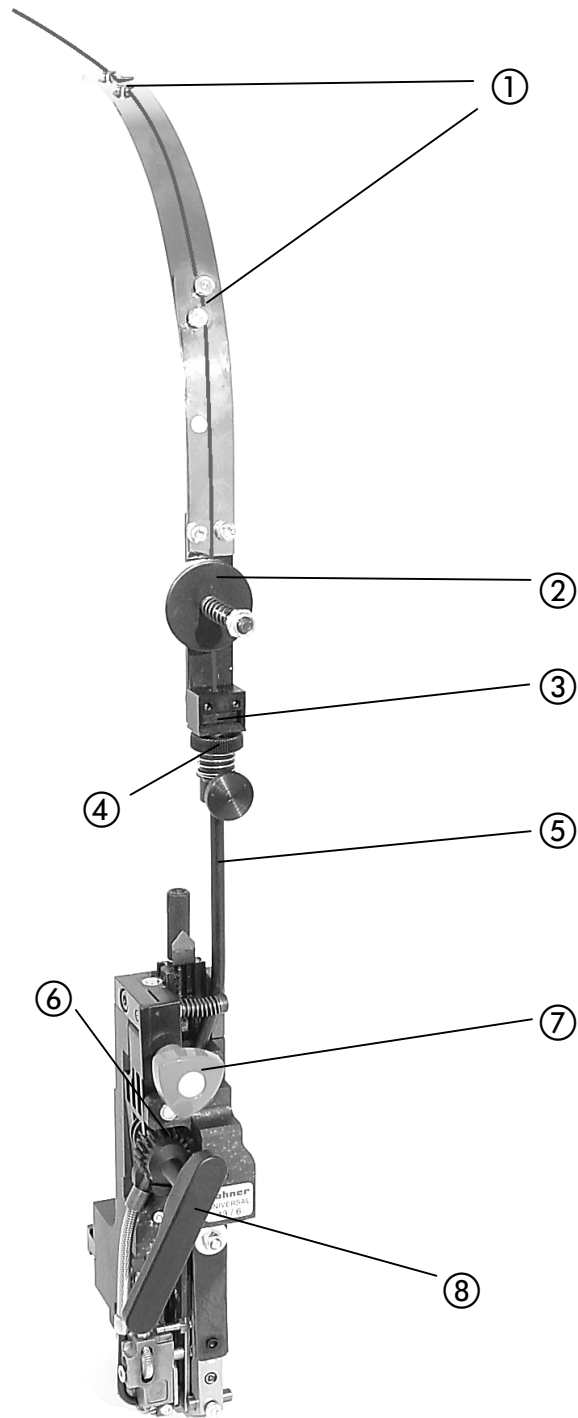

Fig. 9
- Fig. 9 -
- Shut off the wire transport (move triangular handle ⑦ until you see the feed wheels disengaged).